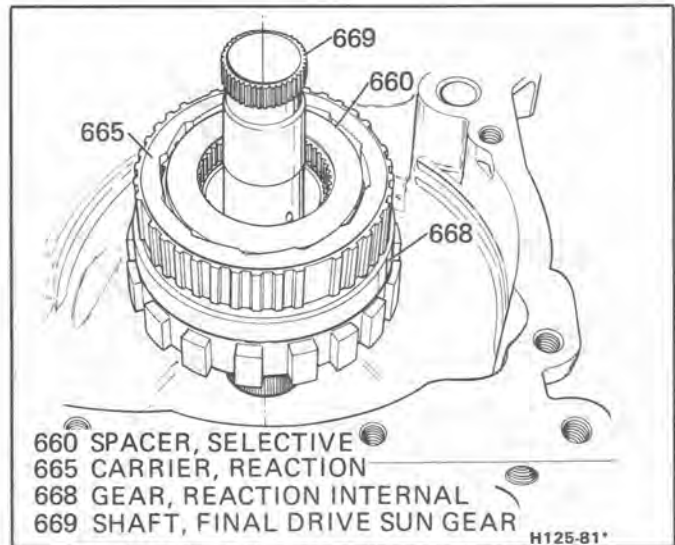

Figure 35 Removing Reaction Components
4. Snap ring (650)
5. Output carrier and roller clutch assemblies and lo reverse clutch plates (658 thru 668) by lifting shaft (669) (Figure 35).